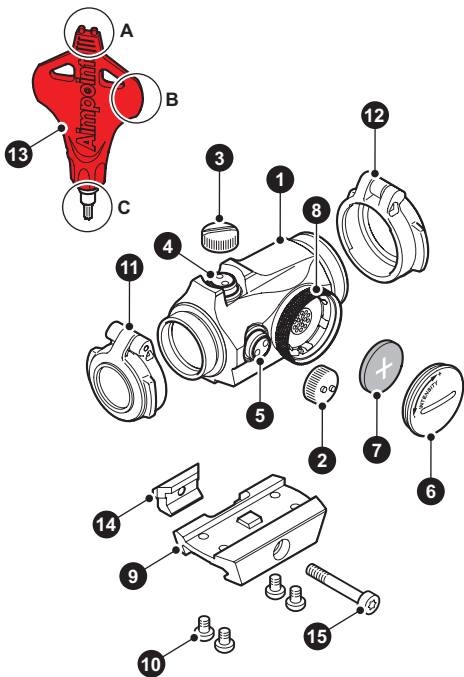

Fig. 3  1.2
See Fig. 3
- a Remove battery cap (6) using the tool (13B).
- b Insert battery (7) with the positive end (+) toward battery cap (6) as can be seen in Fig 3.